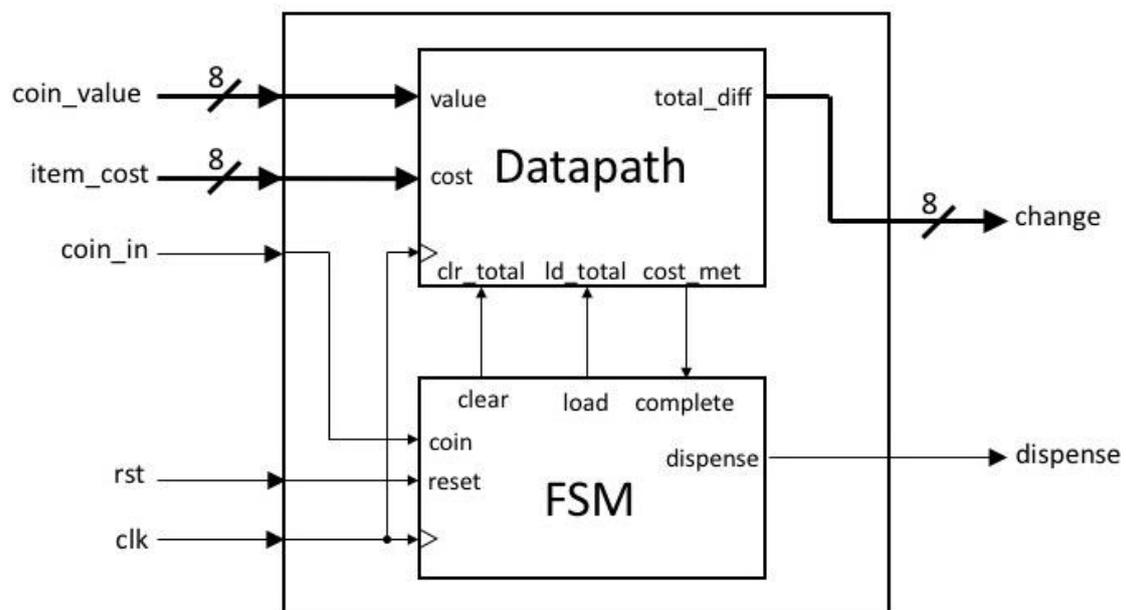

Figure Q3.1
3. Figure Q3.1 shows the block diagram of a controller module designed to be used as part of a vending machine design.